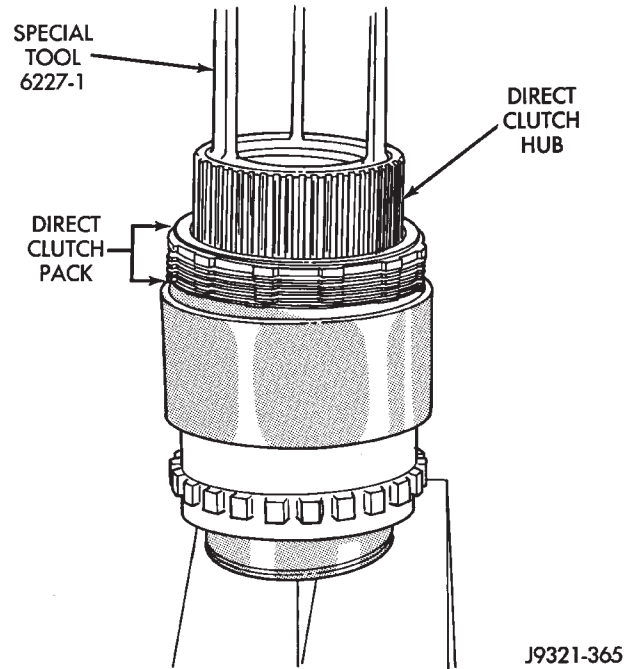

Fig. 210 Direct Clutch Pack Removal
(6) Release press load slowly and completely (Fig. 210).
(7) Remove Special Tool 6227-1. Then remove clutch pack from hub (Fig. 210).